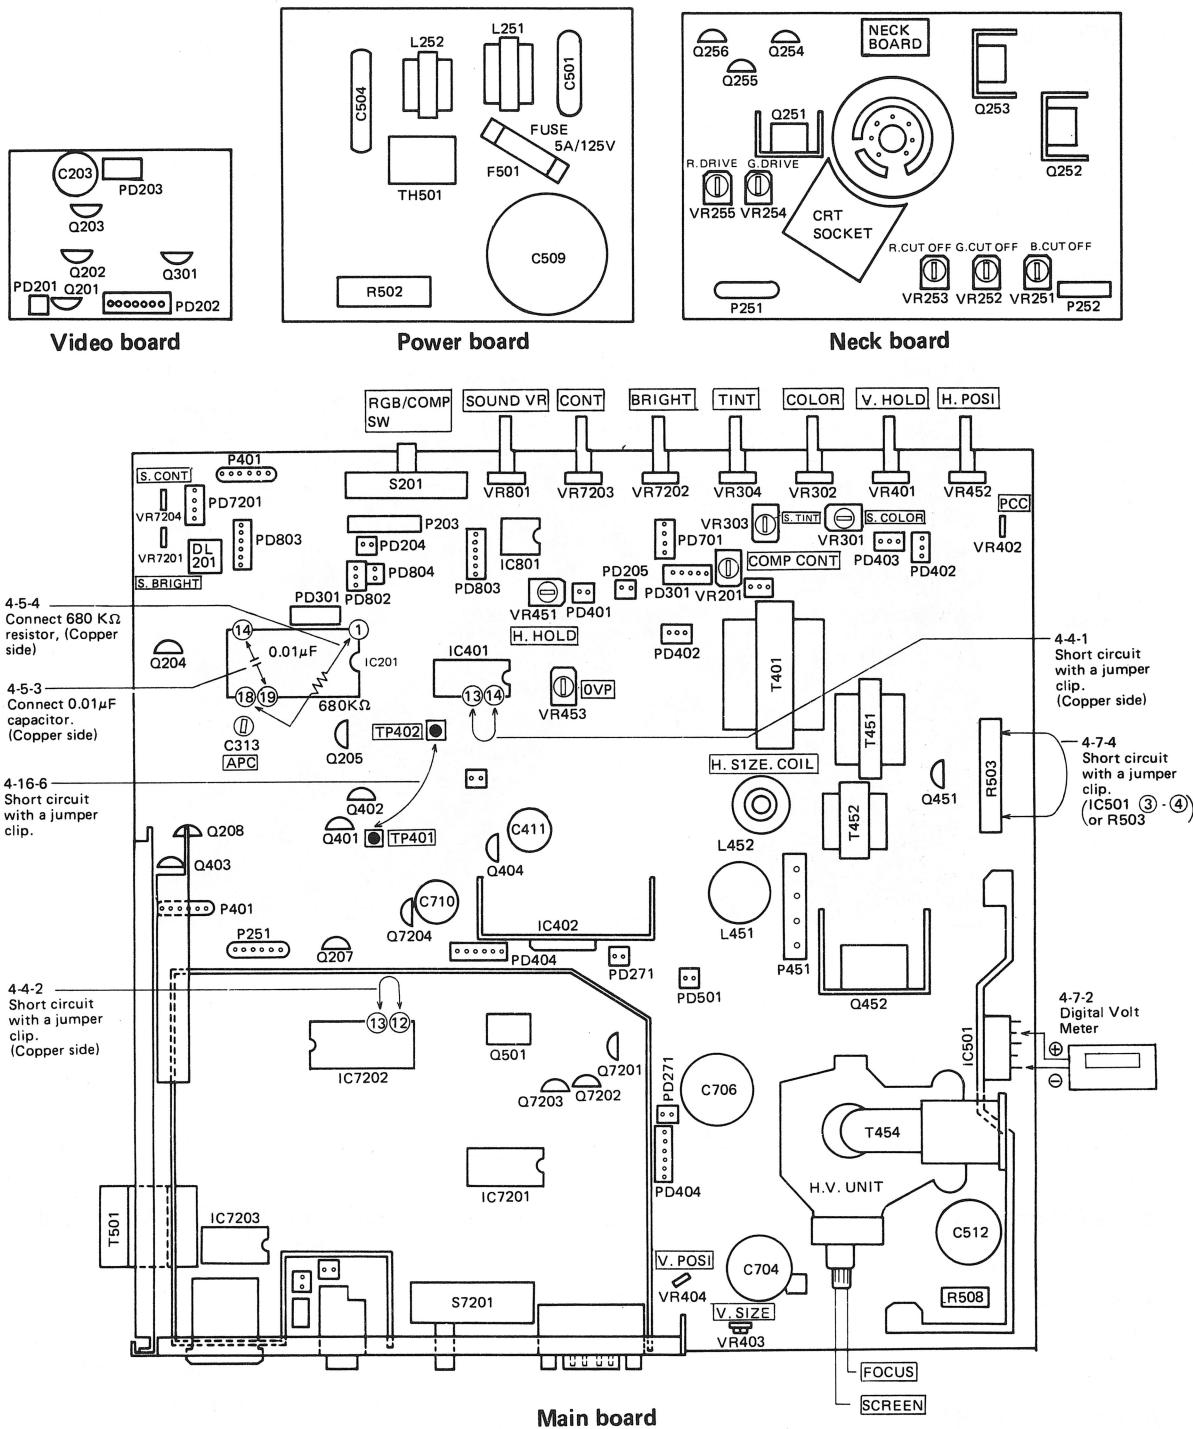

Fig. 10
1. Short circuit IC401 ⑬ and ⑭ with a jumper clip. See Fig. 10.
2. Short circuit IC7202 ⑫ and ⑬ with a jumper clip. See Fig. 10.
4.5 APC Adjustment (See Fig. 10)
4.7 Over Voltage Protector Control (VR453) Adjustment (See Fig. 10)
4.8 Vertical Position Control (VR404) Adjustment (See Fig. 10)
4.7 Commande de protection contre la surtension (VR453) Réglage (Voir la fig. 10.)
4.9 Horizontal Size Adjusting Coil (L452) (See Fig. 10)